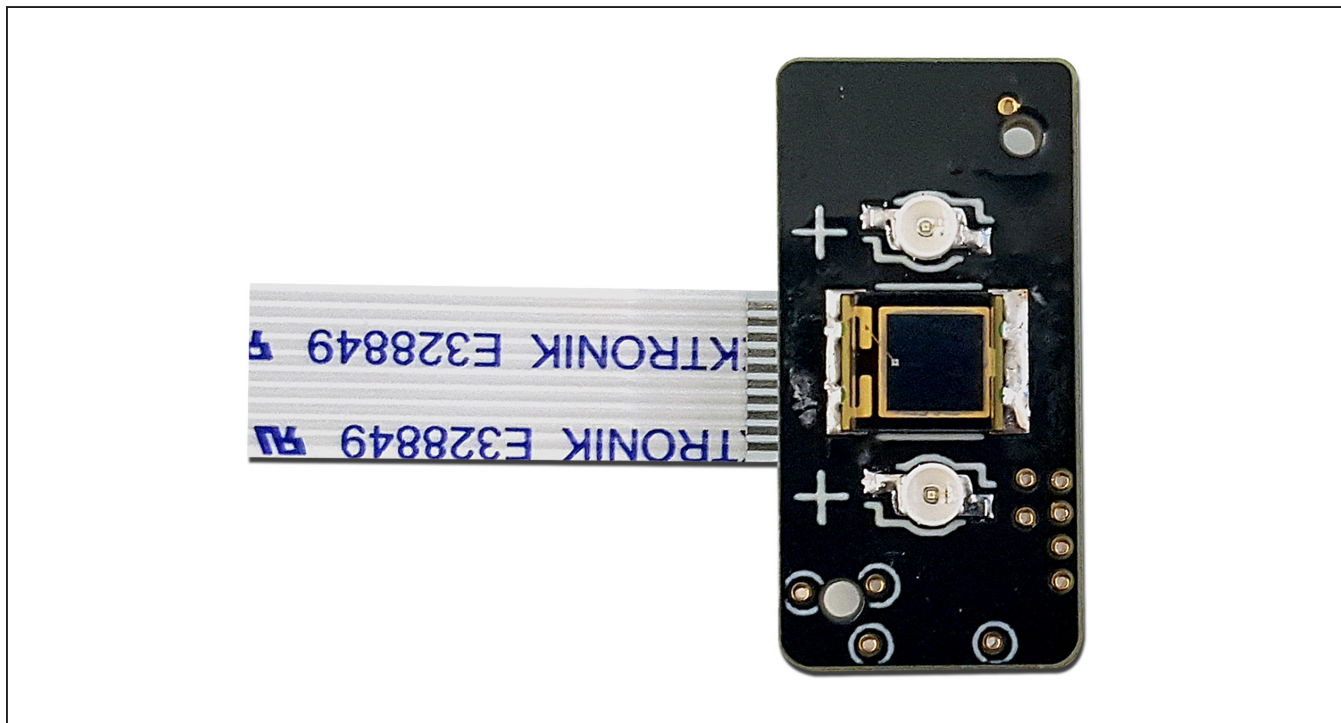
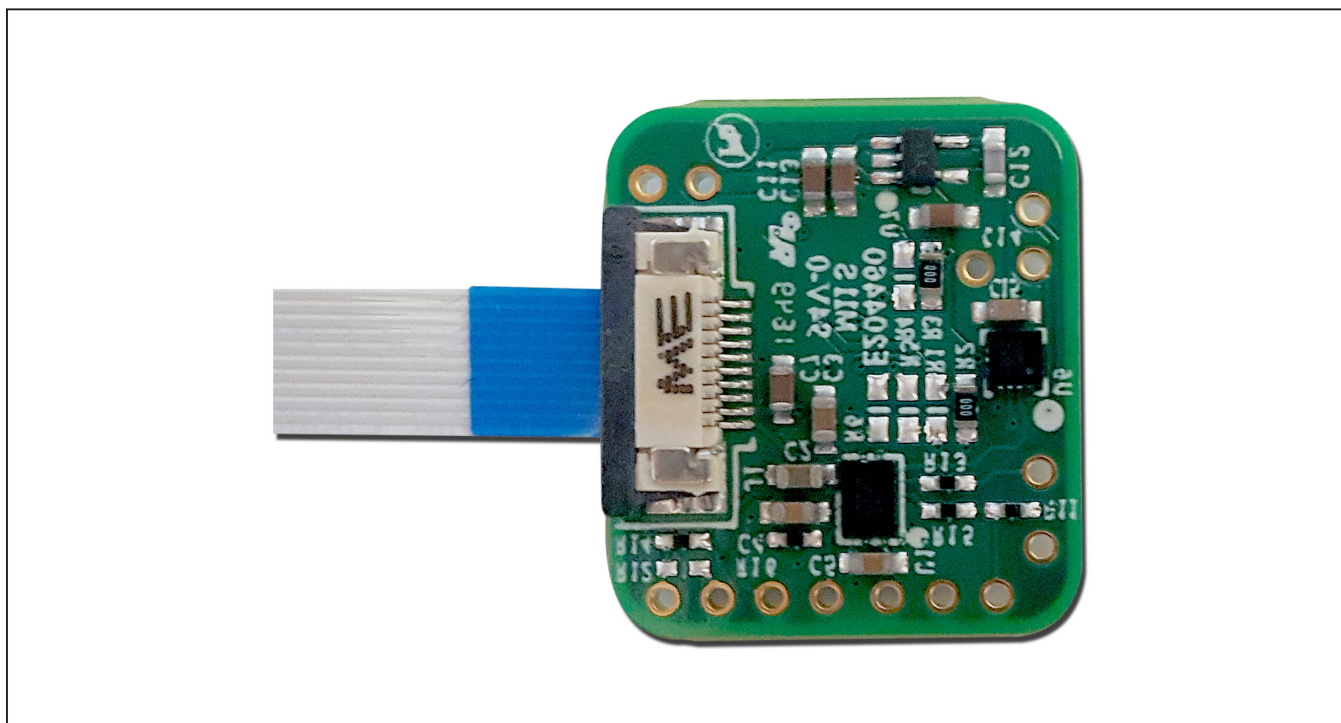

Figure 7. MAX30110 EV Kit—Hardware Setup (Sensor PCB 1 – Top View)
Figure 8. MAX30110 EV Kit—Hardware Setup (Sensor PCB 2 – Bottom View)
- 3) If the MAX30110 EV kit 10-pin flex cable is not already connecting the MAX30110 EV kit micro-PCB to the MAX30110 EV kit sensor PCB 1/2, then connect the two PCBs with the cable as shown in Figure 5, Figure 6, Figure 7, Figure 8, and Figure 9.